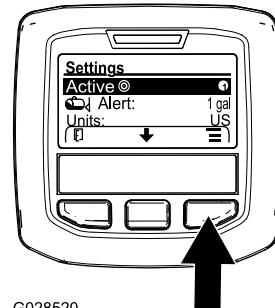

Figure 59
- Press the center selection button to highlight the Active application rate setting (Figure 59).
- Press the right selection button to toggle between application rate 1 and 2 (Figure 59).